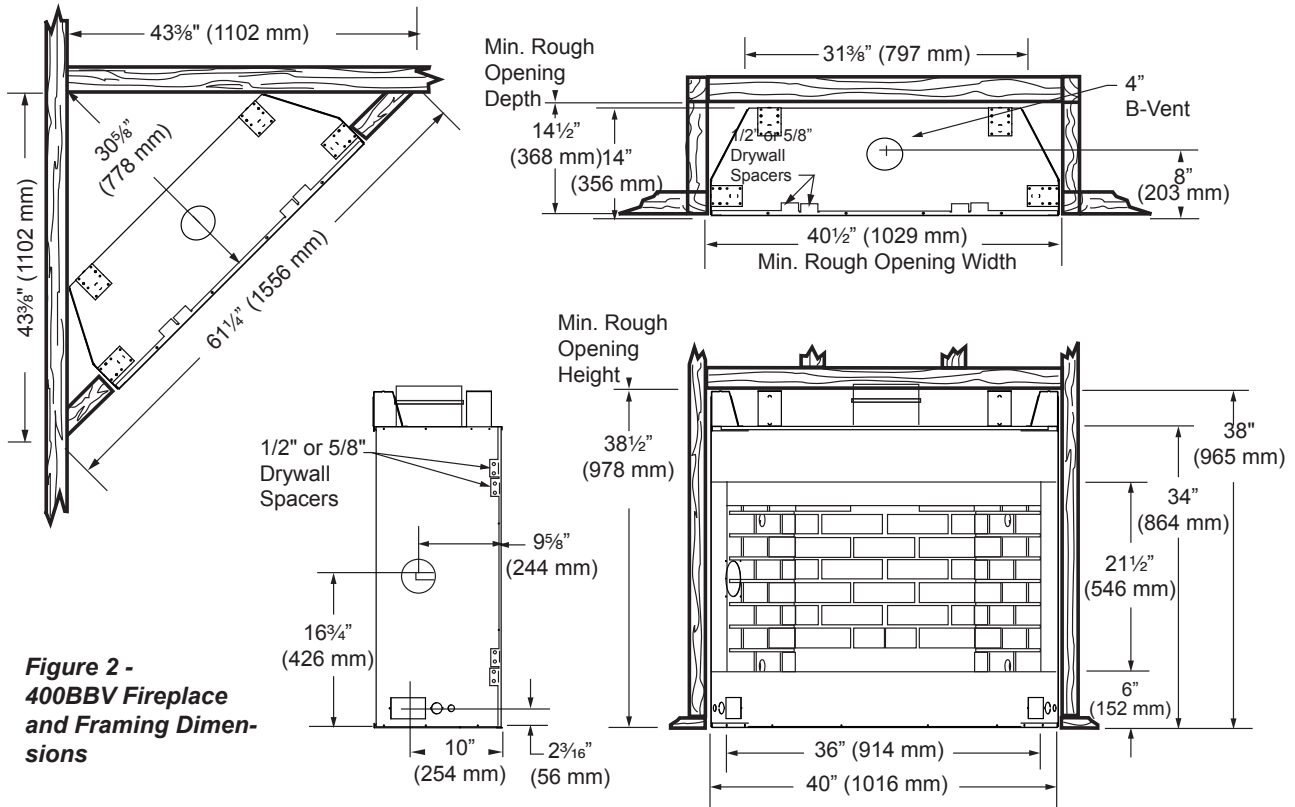

Figure 2 - 400BBV Fireplace and Framing Dimensions
Firebox framing can be built before or after the appliance is set in place. Construct firebox framing following *Figures 2 or 3* for your specific installation requirements. Refer to *Figures 2 & 3* for firebox dimensions. The framing headers may rest on the top of the firebox standoffs.
Chimney centerline dimensions are referenced on Pages 6 & 7, Figures 2 & 3.
- Locate chimney centerline dimension from a combustible back wall. *Figures 2 & 3*. Minimum firestop dimensions are found in the vent manufacturer's instructions. Clearances to combustibles may also be found on the sides of the flue sections.